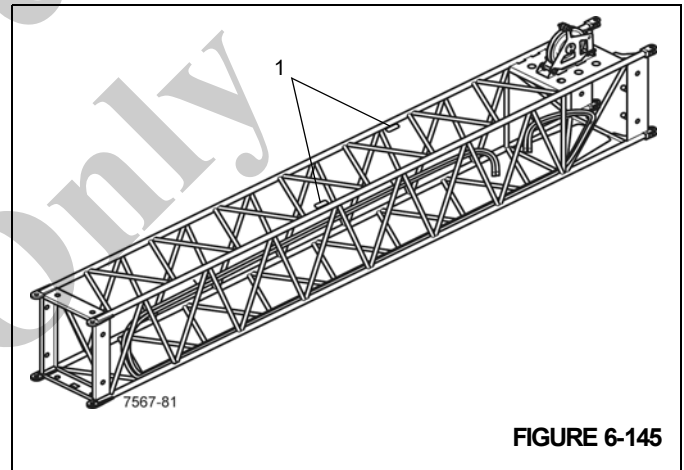

FIGURE 6-145
3. Connect a sling to the two lifting lugs (1), (Figure 6-145).
3. Connect a sling to the two lifting lugs (1), (Figure 6-145) and lift the insert enough to take the load off the connecting pins.